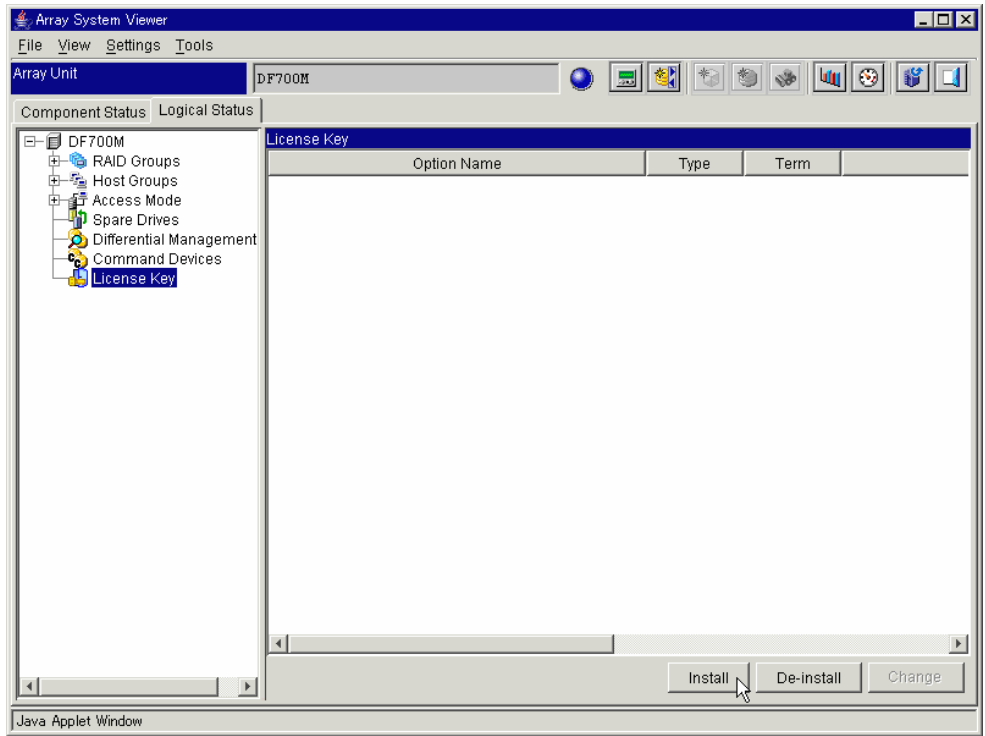

Figure 6.20 Array System Viewer - License Key
1. Click the **Logical Status** tab on the **Array Unit** screen. See Figure 6.20.